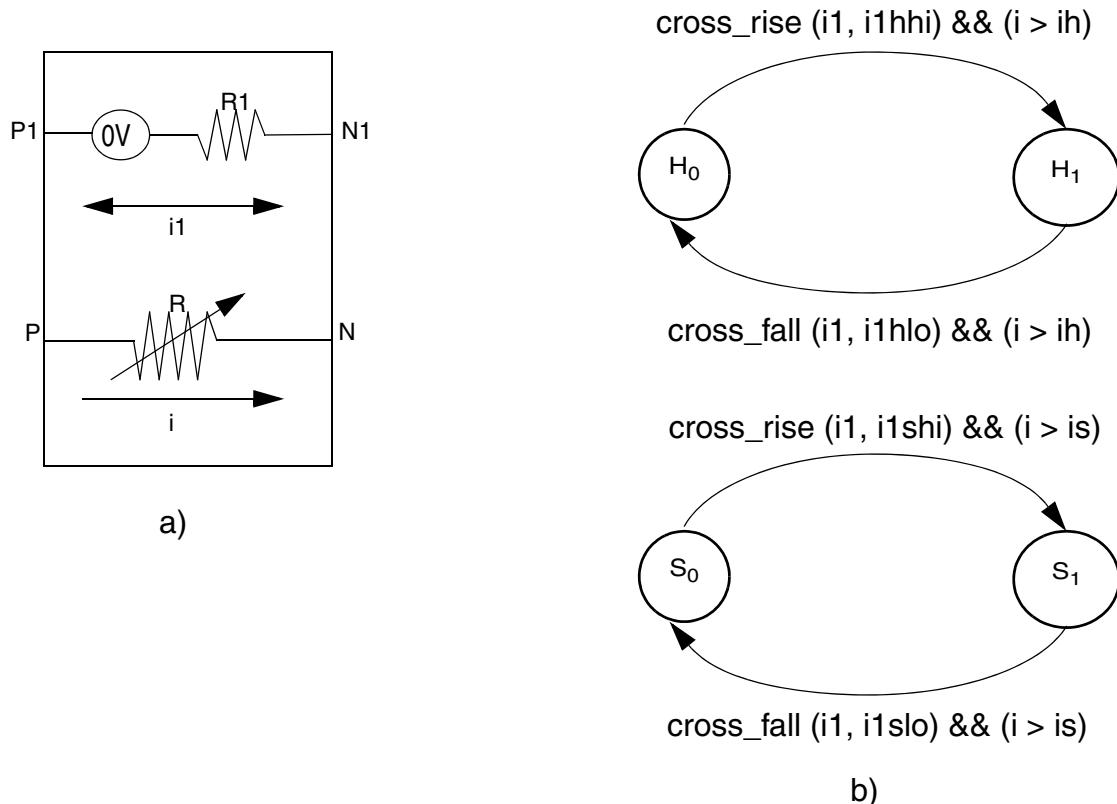

Figure 32 DAL MRAM 4-terminal device (MRES1) and DAL MRAM state sequence and current requirements
Graphically, the DAL MRAM core cell can be represented as a 4-terminal device, consisting of a bidirectional word line (WL) and a unidirectional sense line (SL) and a two-state structure (one for each magnetic layer) shown in Figure 32.